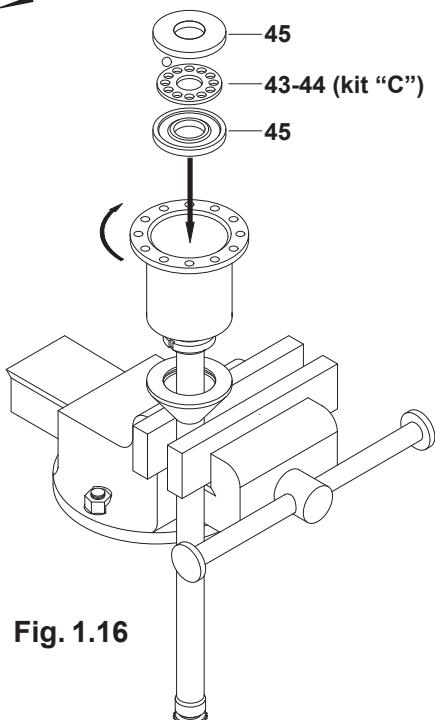

Fig. 1.16
1.5.10) Fit the bearing unit pos. 43-44-45 in the bottom casing pos. 40 and screw it right up against the ring nut loosened previously in section 5.02 (Fig.1.16).